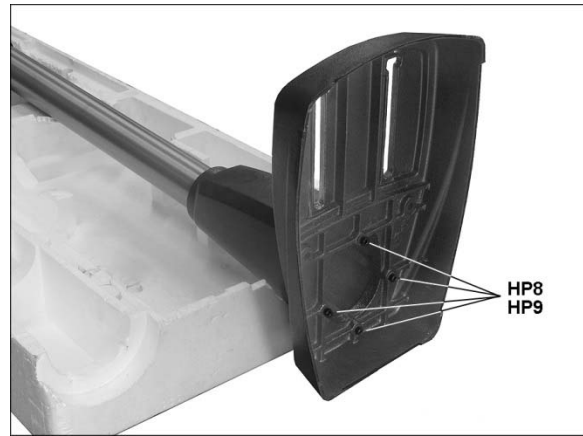

Figure 5
3. Lay the column assembly down on an elevated surface (such as the included polystyrene packaging). Attach base to column foot with four M8x40 socket head cap screws and four 8mm flat washers (HP8/HP9, Figure 5), using a 6mm hex key. NOTE: Align base and foot so that their edges are flush.